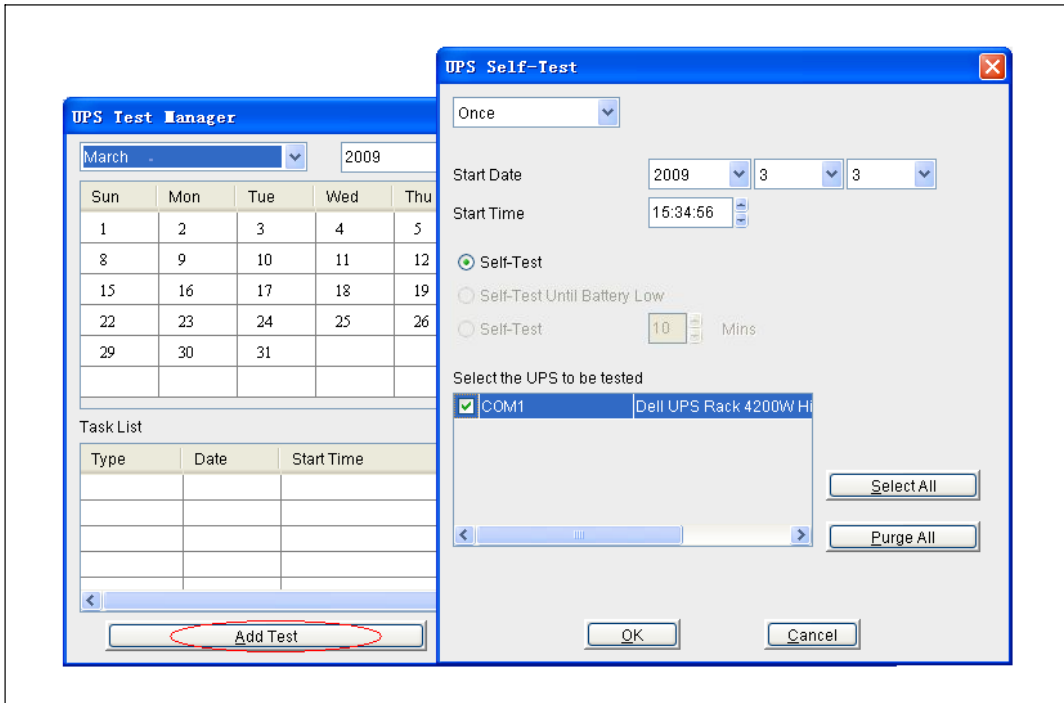

Figure 75. UPS Self-Test Window
- 1 Click **Add Test** to open the UPS Self-Test window (see Figure 75).